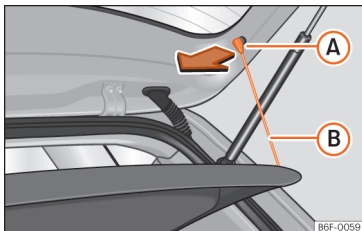

Fig. 143 In the boot: removing and installing the shelf.
- Detach the cord loops >>> **Fig. 143** **(B)** from their hooks **(A)**.
- Attach the securing straps >>> **Fig. 143** **(B)** onto the rear lid.